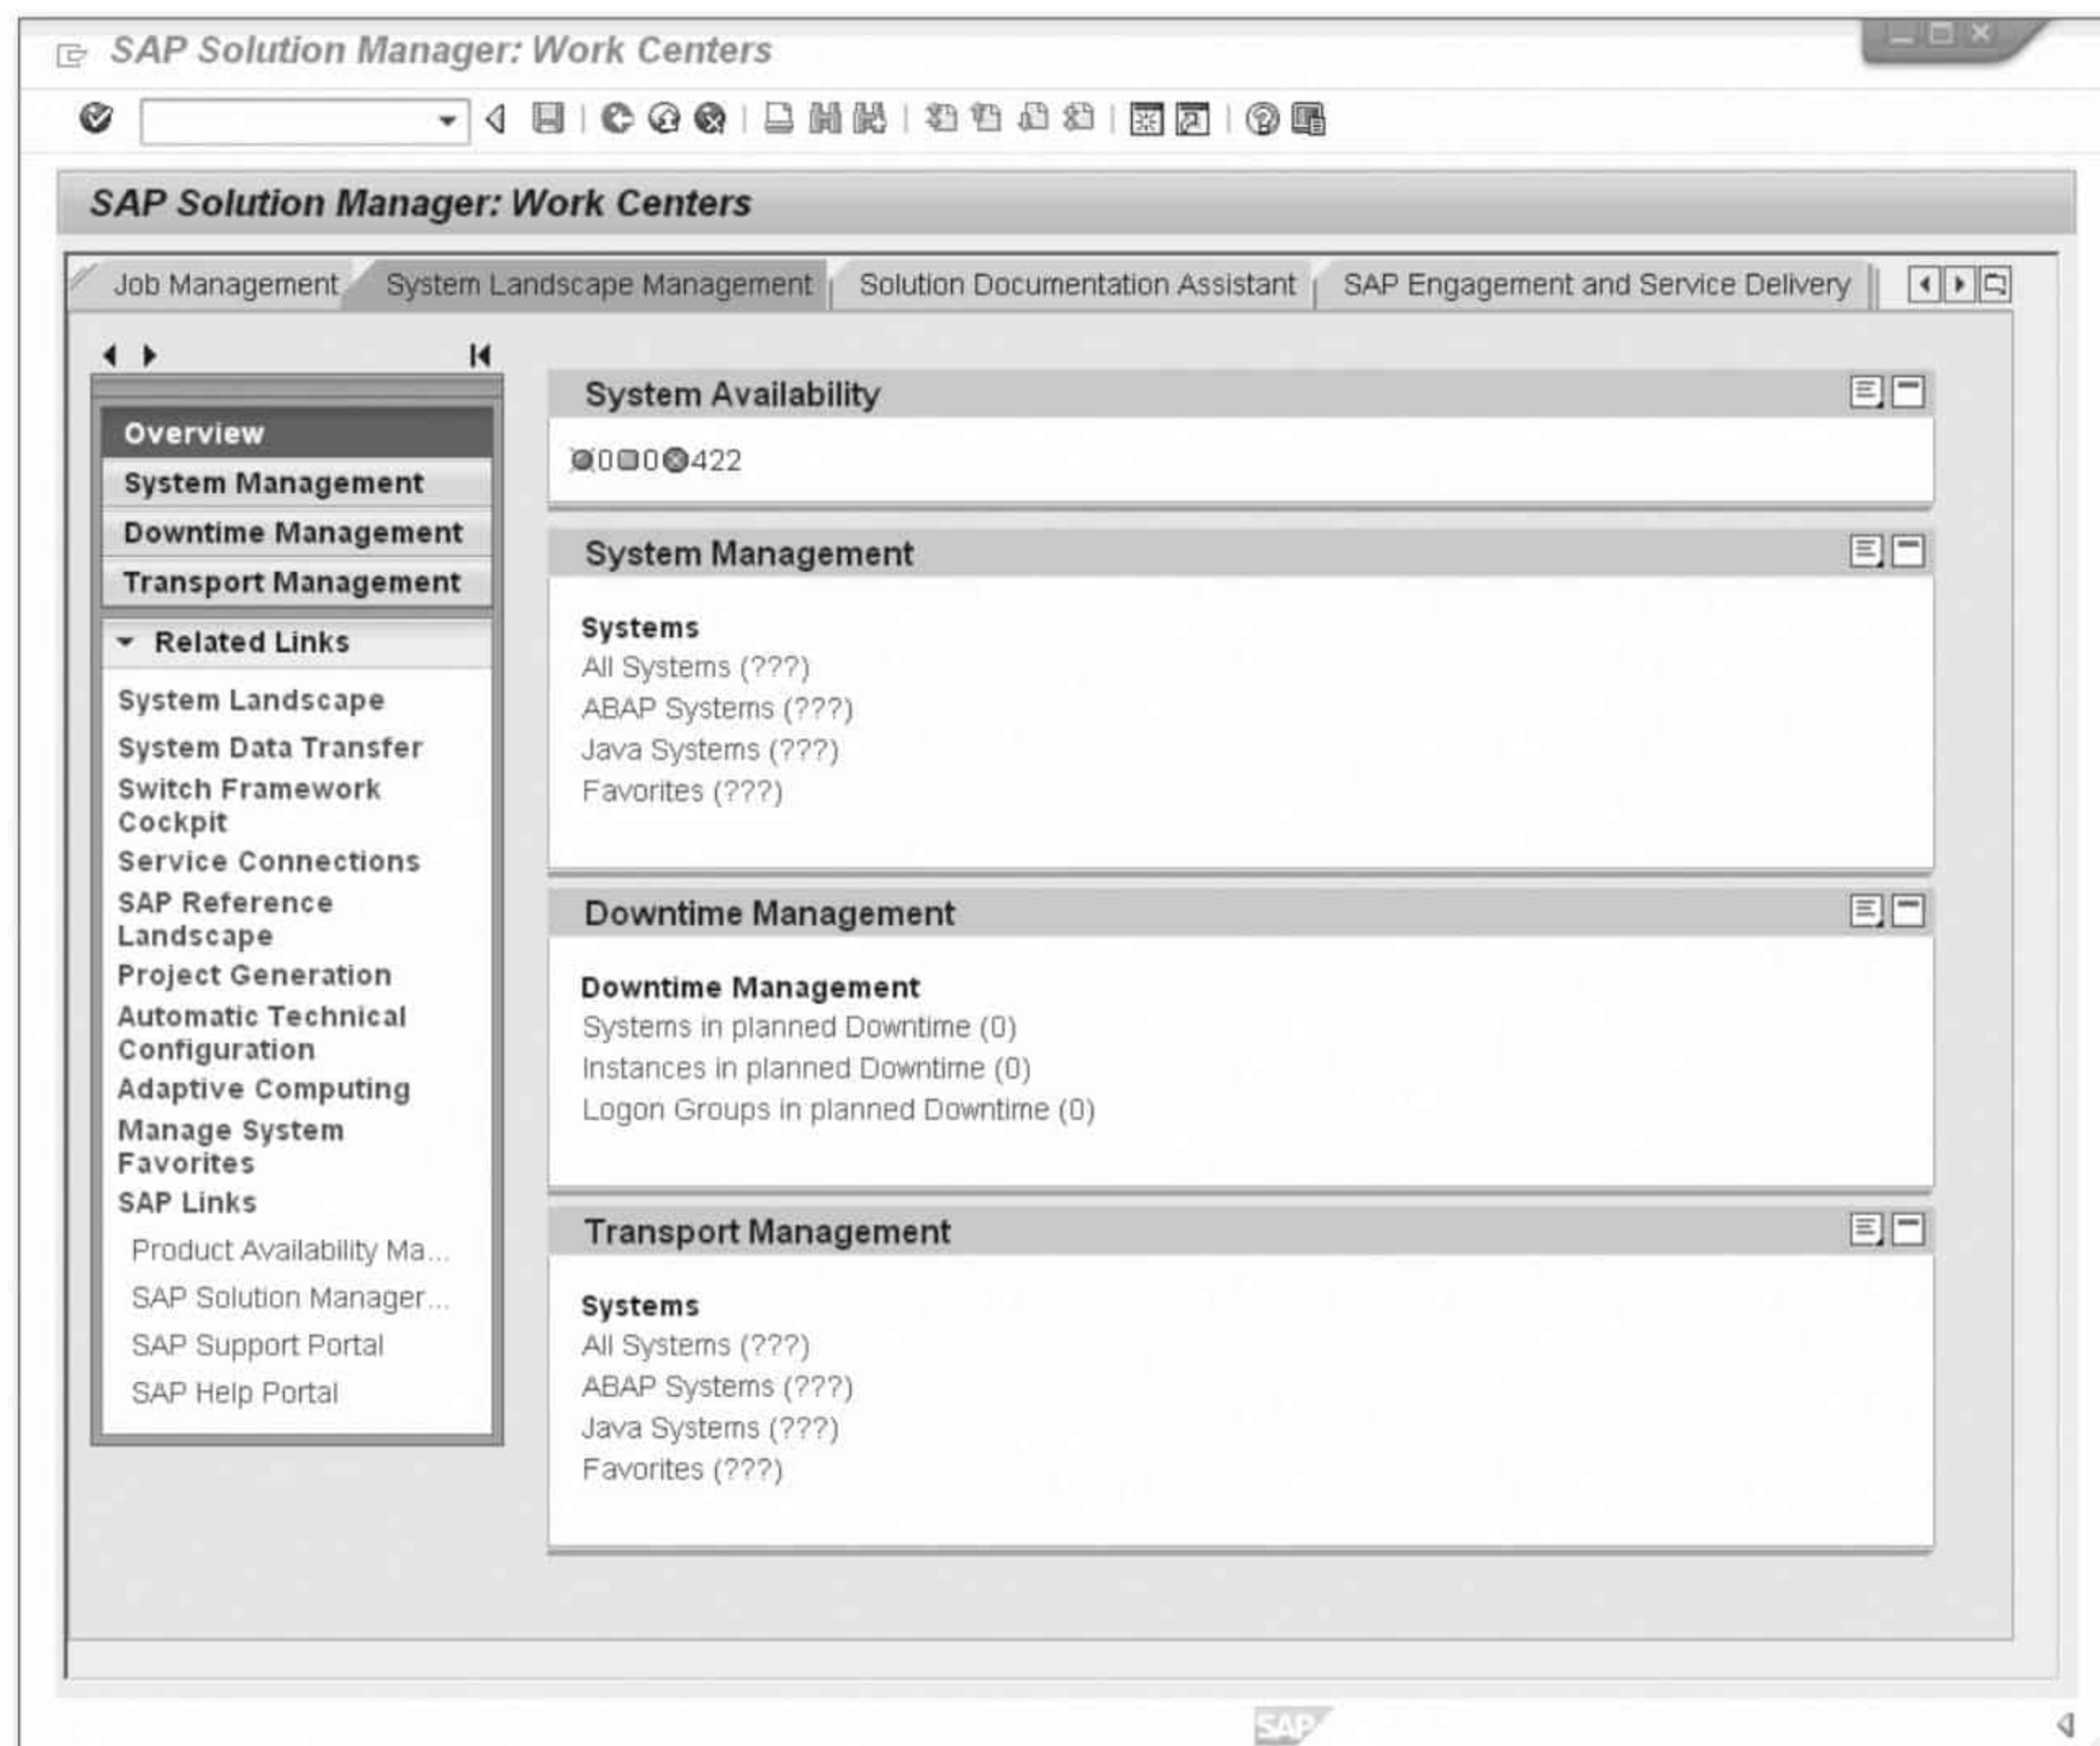

Figure 4.2 System Landscape Management Work Center
Figure 4.2 shows the initial screen of the SYSTEM LANDSCAPE MANAGEMENT work center with the corresponding navigation levels.
The system landscape is part of the SYSTEM LANDSCAPE MANAGEMENT work center and the central access point for all business functions that are required to define and manage your system landscape. See Figure 4.2.
2. From the navigation area under RELATED LINKS, select the SYSTEM LANDSCAPE entry (see Figure 4.2).